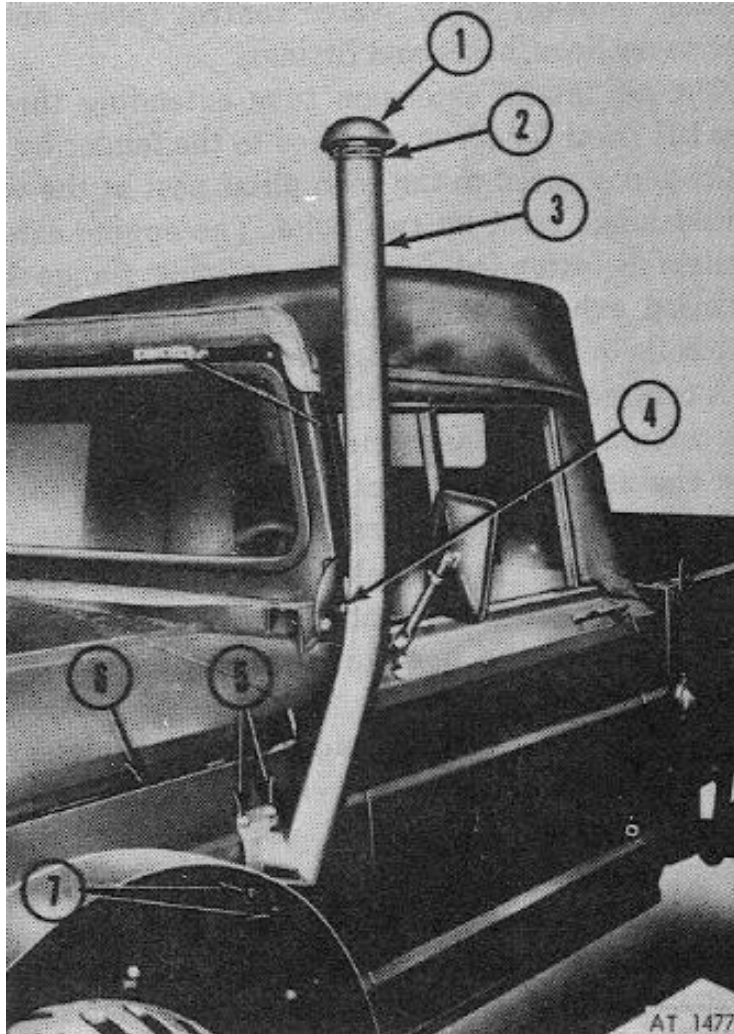

Figure 3-4. Air inlet tube extension.
b. Air Inlet Tube. (Fig 3-4)
- (1) Disconnect the carburetor air cleaner flexible tube from the air inlet tube.
- (2) Remove two cap screws, nuts and lock washers securing the air tube to the crown of the left front fender.
- (3) Remove two cap screws, nuts and lock washers securing the air tube to the left front fender apron.
- (4) Remove the cap screw, nut and lock washer securing air tube bracket to the cowl pillar post. Slip air tube from hole in fender apron and remove air tube from vehicle.
e. Air Inlet Tube. (Fig 3-4)
- (1) Position air tube to hole in fender apron.
- (2) Install bolt, nut and lock washer and secure air tube bracket to the cowl pillar post.
- (3) Install bolts, nuts and lock washers securing air tube to the left front fender apron and crown.
- (4) Connect air cleaner flexible tube to air inlet tube and secure.